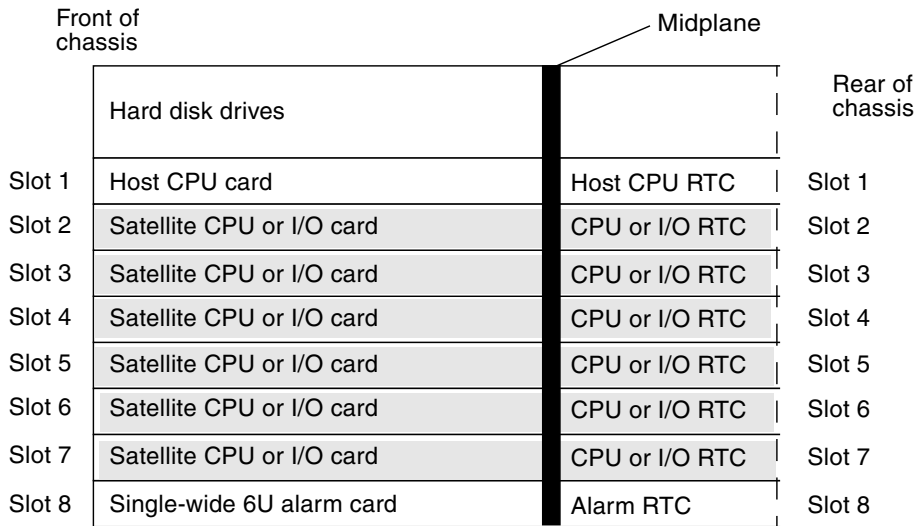
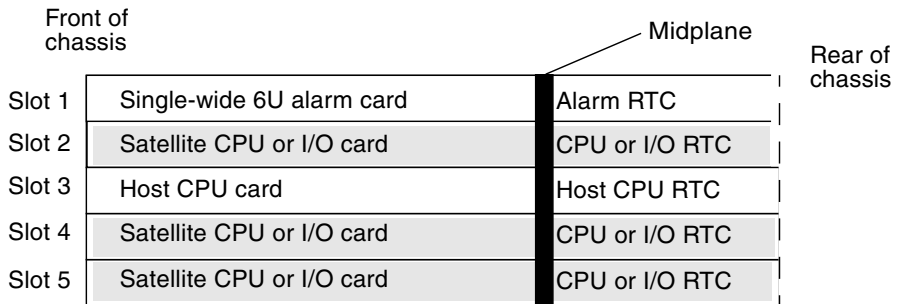

FIGURE 6-21 Supported Locations for Satellite CPU or I/O Rear Transition Card Sets in a Netra CT 810 Server (Top View)
FIGURE 6-22 Supported Locations for Satellite CPU or I/O Rear Transition Card Sets in a Netra CT 410 Server (Top View)
When one of the two cards fails, you may not be able to determine which of the two cards has failed. Because of this, you may want to replace both the satellite CPU card *and* the satellite CPU rear transition card. FIGURE 6-21 and FIGURE 6-22 give graphical representations of how the satellite CPU cards should align with the satellite CPU rear transition cards (RTCs). Note that, if you are facing the *front* of the server, the I/O slots read from *left to right*, whereas they read from *right to left* if you are facing the *rear* of the server.
When one of the two cards fails, you may not be able to determine which of the two cards has failed. Because of this, you may want to replace both the front I/O card and the I/O rear transition card. FIGURE 6-21 and FIGURE 6-22 give graphical representations of how the front I/O cards should align with the I/O rear transition cards (RTCs). Note that, if you are facing the *front* of the server, the I/O slots read from *left to right*, whereas they read from *right to left* if you are facing the *rear* of the server.
- FIGURE 6-21 shows the satellite CPU or I/O card slots in a Netra CT 810 server.
- FIGURE 6-22 shows the satellite CPU or I/O card slots in a Netra CT 410 server.
FIGURE 6-21 shows the slots available for the rear transition cards in a Netra CT 810 server and FIGURE 6-22 shows the slots available for the rear transition cards in a Netra CT 410 server.